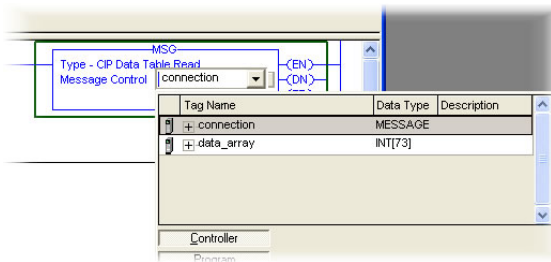

Figure 99: MSG Instruction Tag Assignment
- a) Edit the "Message Control" field on the MSG instruction to use the previously-created "connection" tag. Refer to Figure 99.